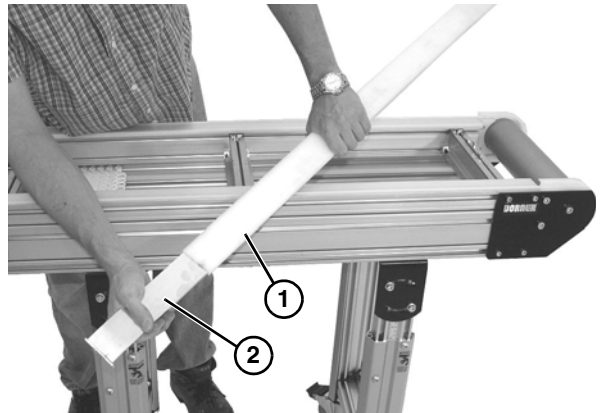

Figure 24
5. Remove the center wear strip (**Figure 24, item 1**) from the center frame channel (**Figure 24, item 2**).